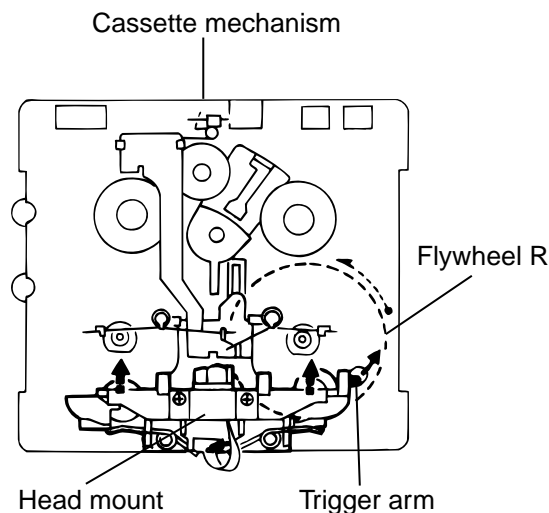

Fig. 1
### ■ Removing the Playback/Recording & Eraser Head ( See Figs. 1 and 2 )
1. While shifting the trigger arms seen on the right side of the head mount in the arrow direction, turn the flywheel R in counterclockwise direction until the head mount has gone out with a click (See Fig. 1).